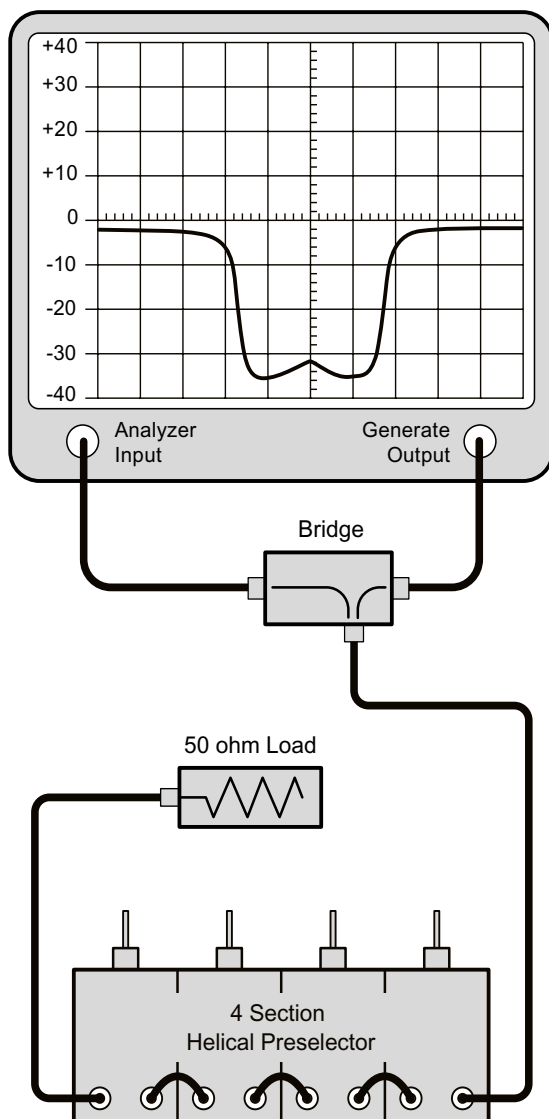

Figure 12: Observing preselector return loss.
- 6) When using the spectrum analyzer/tracking generator, the equipment must be connected as shown in **Figure 12** in order to check the return loss curve. The network analyzer will show the return loss curve as a matter of course.